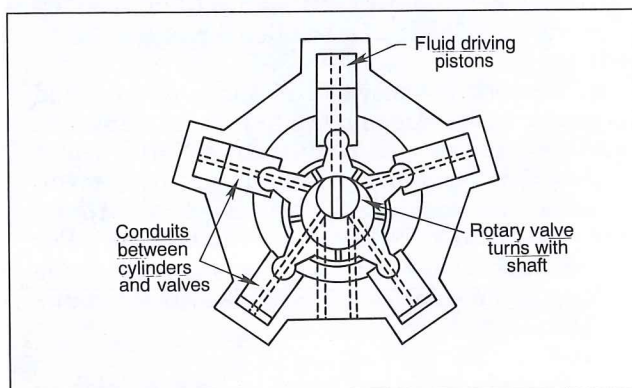

Fig. 9-23 — Reciprocating pistons cause shaft rotation in radial-piston motors.
**Radial-piston motors.** The motors, Fig. 9-23, have pistons that radiate out from the drive shaft, and are arrayed in a number of ways. They can develop over one million lb-in. torque at pressures exceeding 5,000 psi. Speeds range from 0.1 to 2,000 rpm.